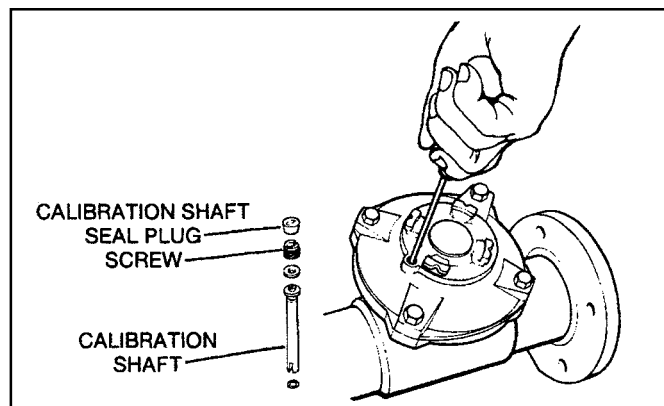

Figure 2. Calibrating Recordall II Turbo Meter
B. CALIBRATION. The meter's calibration vane is preset at the factory and sealed. In normal service, it should not have to be reset. If a retest is required in which a calibrated test stand reveals that the adjustment vane needs recalibration, proceed as follows (see Figure 2):